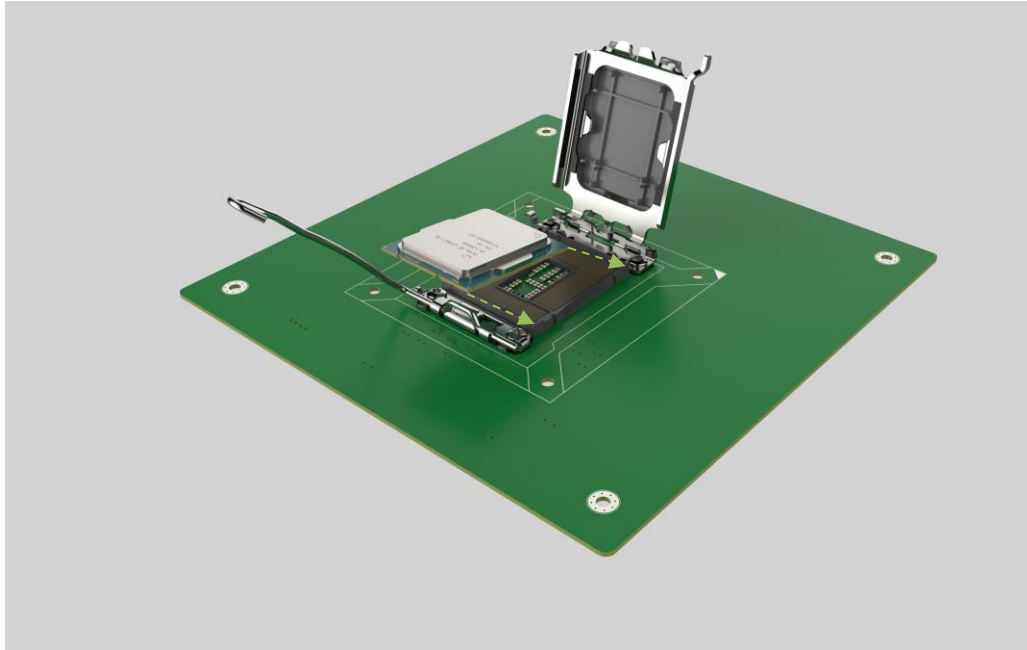

Figure 4-5: Insert the Socket LGA1700 CPU
- Step 7: Insert the CPU.** Gently insert the CPU into the socket. If the CPU pins are properly aligned, the CPU should slide into the CPU socket smoothly. See **Figure 4-5**.